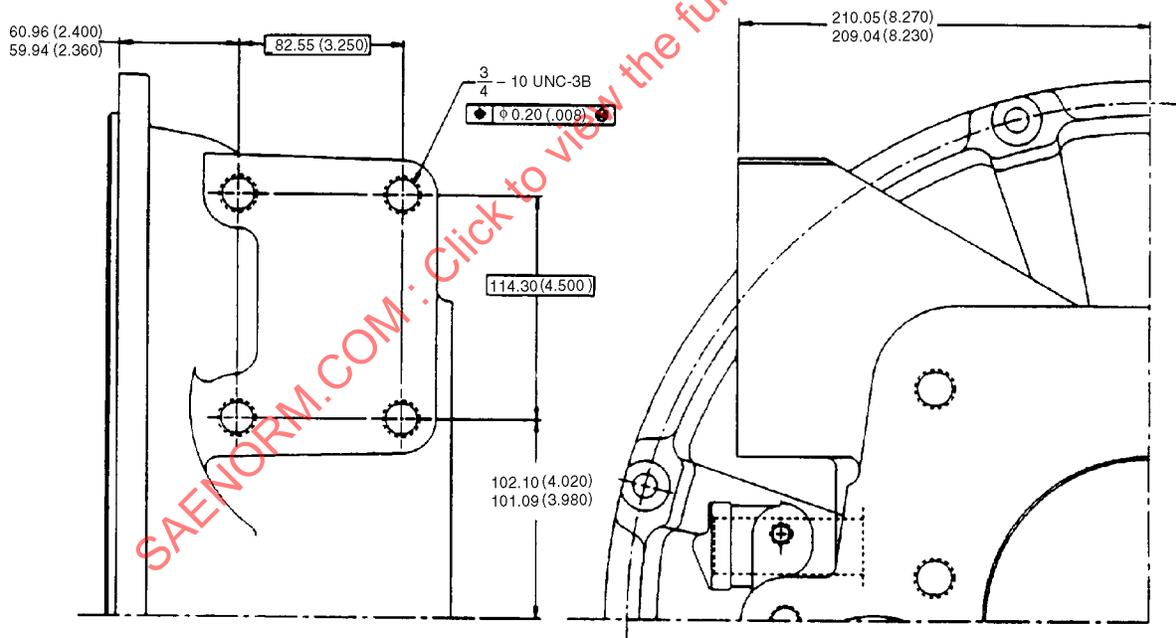
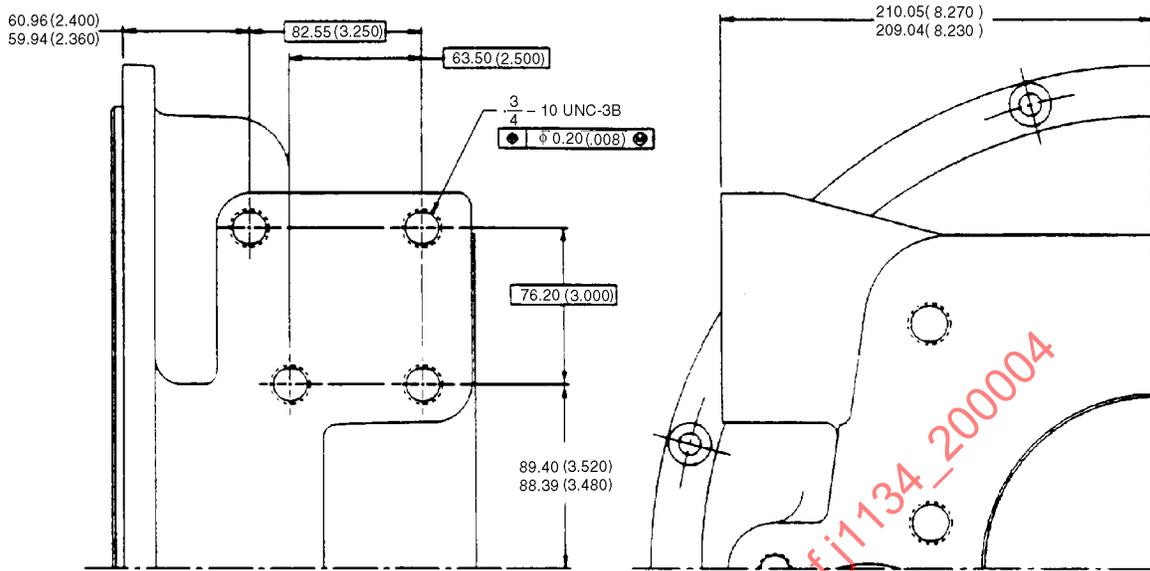

FIGURE 1—NODAL MOUNT—SAE NO. 1
FIGURE 2—NODAL MOUNT—SAE NO. 2
**(R) SAE Nodal Mount**
- 1. Scope**—This SAE Recommended Practice establishes a single bolt pattern for the No. 1 clutch housing (see Figure 1) and the No. 2 clutch housing (see Figure 2).